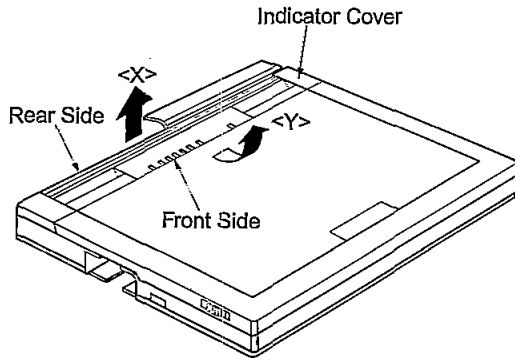

Figure 18
- (3) Turn over the computer again.
- (4) Raise the rear side of indicator cover in the direction of arrow <X>, then raise the front side of indicator cover in the direction of arrow <Y> and remove it as shown in Figure 18.
- (5) Remove one screw <C> ($\text{\O}2 \times 8$ mm) and remove the LED indicator PCB.
- (6) Detach the flat cable from CN501.
- (7) Remove the LED Indicator PCB.